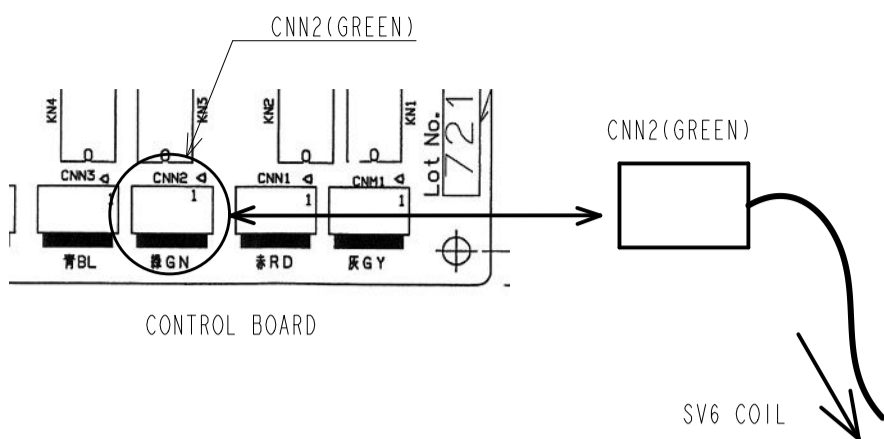

FIG.9 DETAILS OF CNN2(GREEN)
② .REMOVE CONNECTOR CNN2 (GREEN) ON THE CONTROL BOARD. (FIG. 9)
③ .REMOVE THE SV6 COIL ASSEMBLY.
④ .INSTALL THE COIL ASSEMBLY.
⑤ .SECURE THE COIL TO THE BODY WITH BOLTS.
⑥ .FIX THE COIL ASSEMBLY TO THE BRACKET.
⑦ .CONNECT TO CONNECTOR CNN2 (GREEN) ON THE CONTROL BOARD. (FIG. 9)
⑧ .USE THE BINDING BAND TO BIND THE WIRING BACK (3 PLACES).